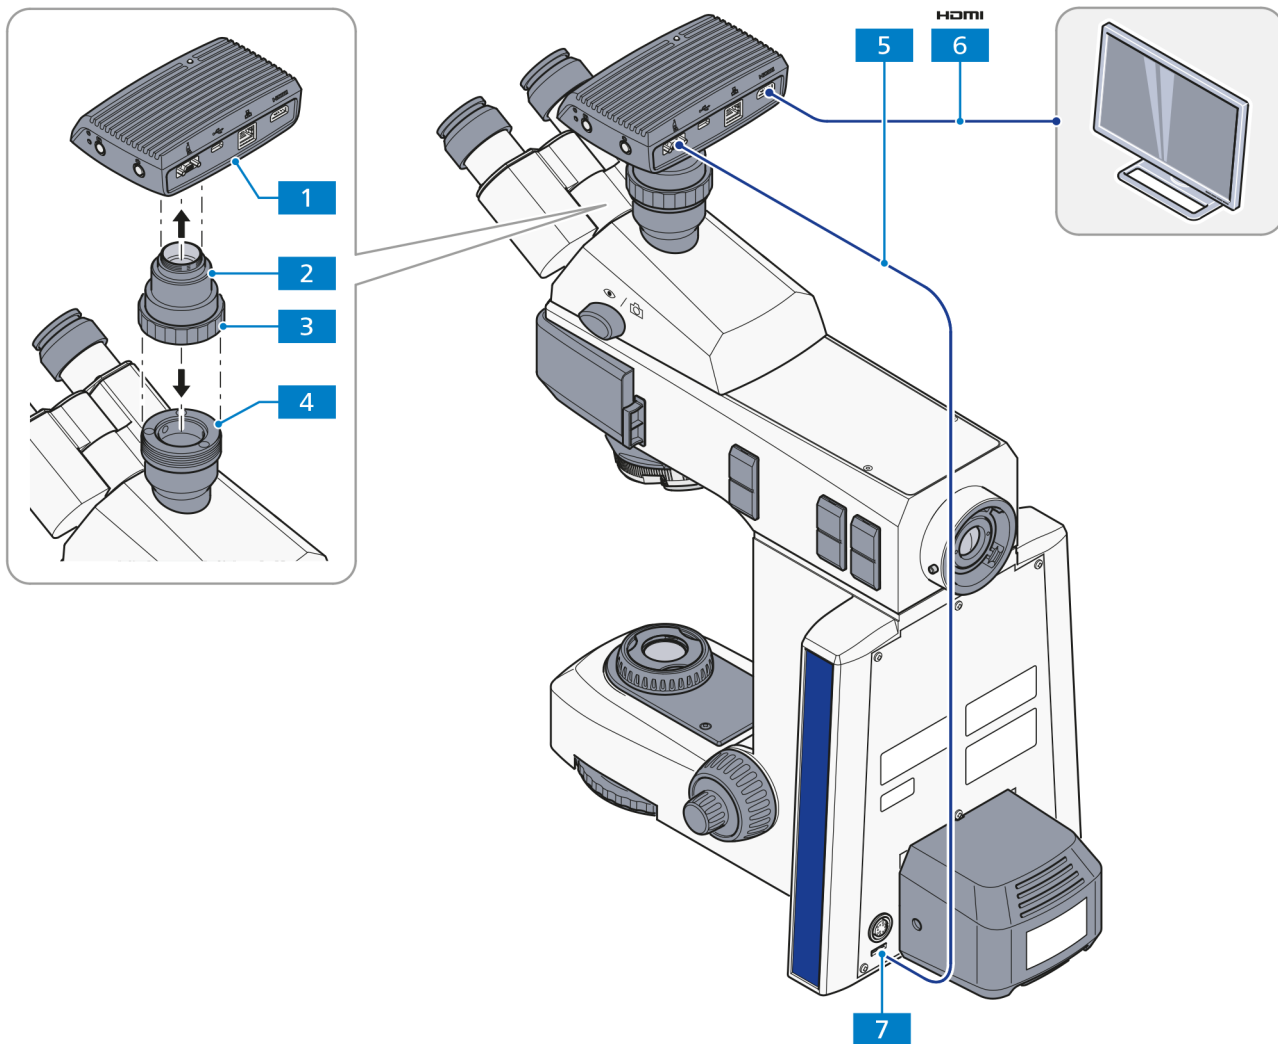

Fig. 3-39 Mounting the Axiocam 202 mono or Axiocam 208 color
- Mount the C-mount camera adapter (Fig. 3-39/2) on the Axiocam (Fig. 3-39/1).
- Attach the Axiocam with the adapter to the camera port (Fig. 3-39/4) of the tube.
- Orient the camera to the stand and fix the position by tightening the ring nut (Fig. 3-39/3).
- Connect the camera to the stand (Fig. 3-39/7) via the USB (Commercial Micro-D) cable (USB 2.0) (Fig. 3-39/5).
- Connect the camera to an external monitor via HDMI cable (Fig. 3-39/6).